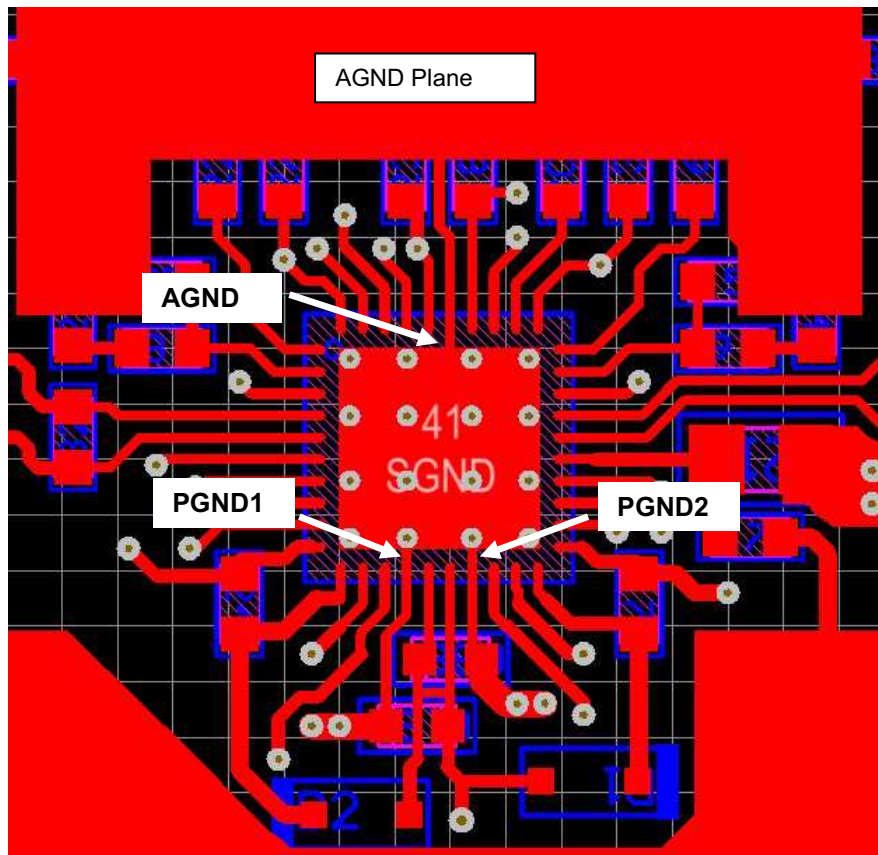

Figure 44. AGND and PGND Connections
- Make the ground connections to the LM5140-Q1 controller as shown in Figure 44. Create a power grounds directly connected to all high-power components and an analog ground plane for sensitive analog components. The analog ground plane (AGND) and power ground plane (PGND1, and PGND2) must be connected at a single point directly under the IC (at the die attach pad or DAP).